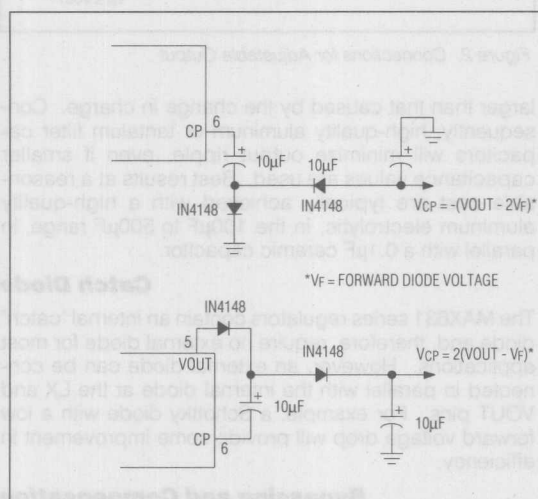

Figure 3. Using the Charge Pump (CP) output as a voltage inverter and/or doubler. Both circuits can be used together.
The Charge Pump (CP) output is a low impedance buffer which swings from ground to VOUT at the oscillator frequency. Two external capacitors and diodes can be connected, as shown in Figure 3, to generate a negative output voltage of $-(VOUT - 1.2V)$ or a positive output of $2(VOUT - 1.2V)$. 1.2V is the forward drop of 2 silicon diodes. Both circuits can be used at once if desired. With 10 μ F capacitors, the output impedance of VCP is about 30 Ω . If space is critical, the capacitors can be reduced, but with a slight increase in output impedance and VCP output ripple.